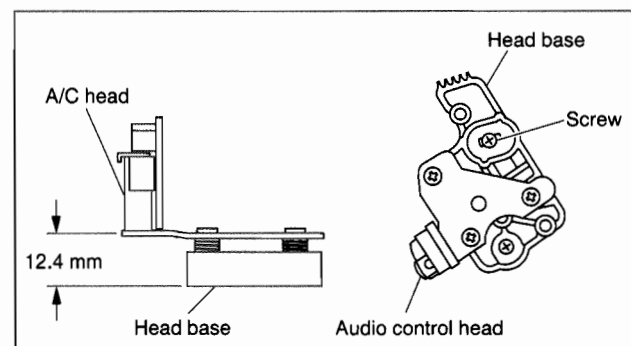

Fig. 2-2-15
- (1) To make the post-installation adjustment easier, set the temporary level as indicated in Fig.2-2-15. Also make sure that the screw center is brought into alignment with the center position of the slot.